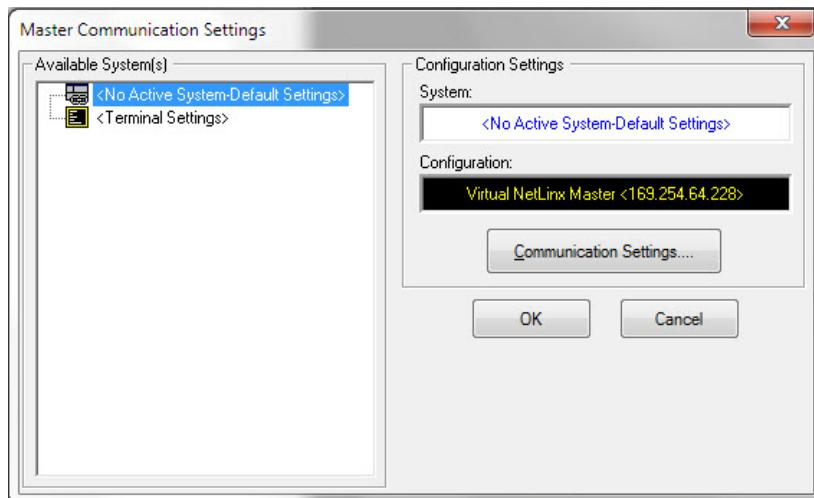

FIG. 71 Master Communications Settings dialog box
1. Launch NetLinx Studio and select **Settings > Master Communication Settings** from the Main menu to open the *Master Communication Settings* dialog (FIG. 71). If this is the first time the device needs to be configured, refer to the *Configuring Modero Firmware via the USB Port* section on page 186.